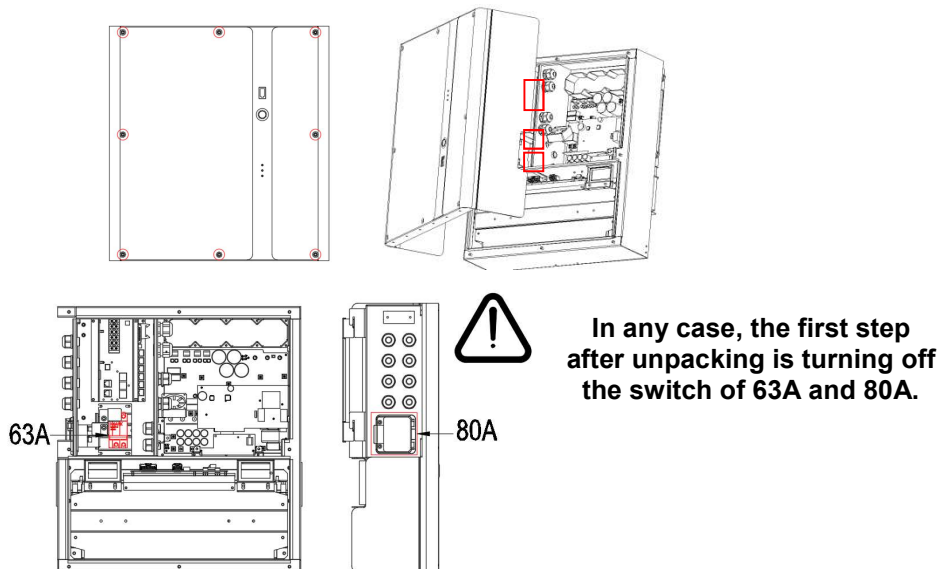

**Figure 2.7 Stand Positioning**
Step 2: first use the percussion drill (M10 drill) to drill holes in the wall with depth 65mm, then install and place the stand.(1. Insert the expansion pipe into the drilled hole. Then pass the tapping screw through the spacer and tighten it with the cross screwdriver), as shown in Figure 2.7.